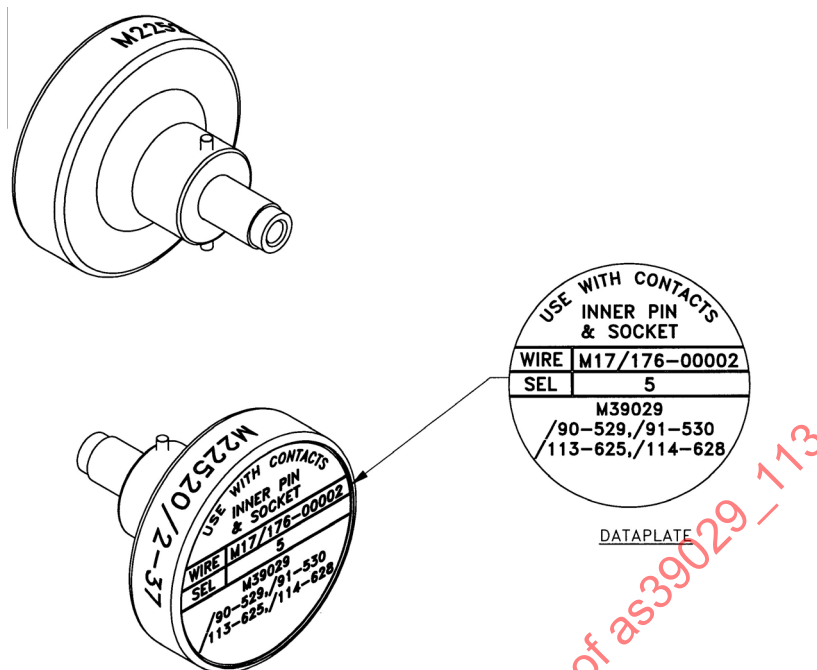

FIGURE 8 - GRAPHIC OF M22520/2-37 POSITIONER
- SEE FIGURE 8 FOR GRAPHIC OF M22520/2-37 (REFERENCE K709 OR EQUIVALENT) POSITIONER.